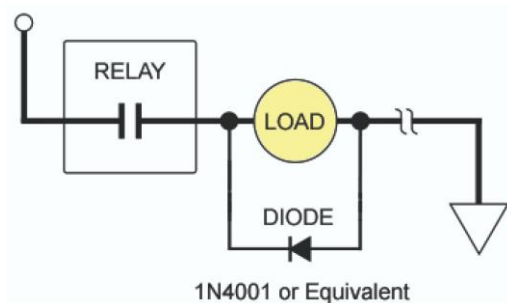

Figure 2-18. Installing a Diode Across a DC Load
- b. DC loads: Install a diode across each DC load, such as relays, solenoids and PLC inputs (see Figure 2-18).